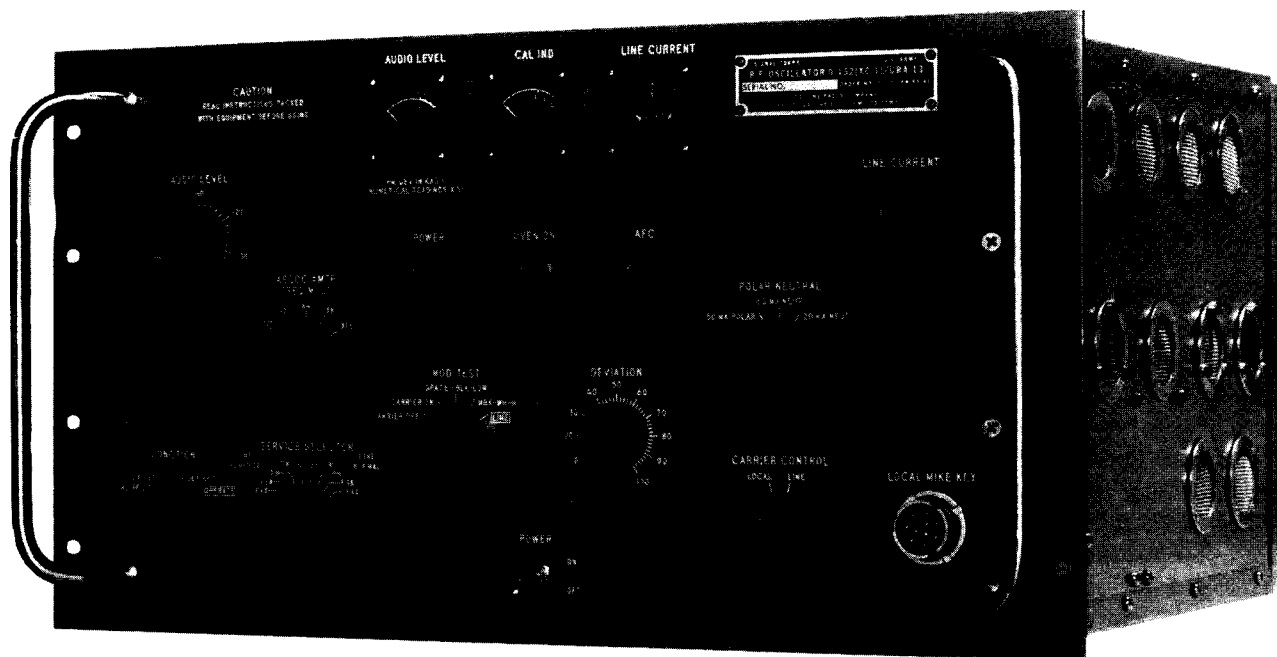

Figure 7. Radio Frequency Oscillator O-152/URA-13, front view
9. Description of Radio Frequency Oscillator O-152/URA-13 (figs. 7 and 8)